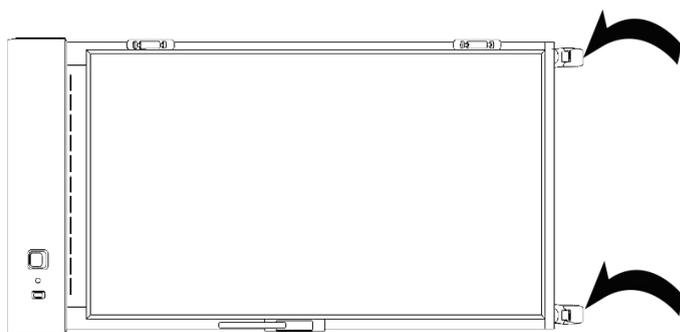

Fig 3.
- Thermoline 150 litre ovens have removable castors for benchtop storage. To safely remove castors, simply tip the cabinet over gently onto its back or side and unscrew the castors from the bottom of the cabinet (Fig 3). This is a two person job so please get assistance.